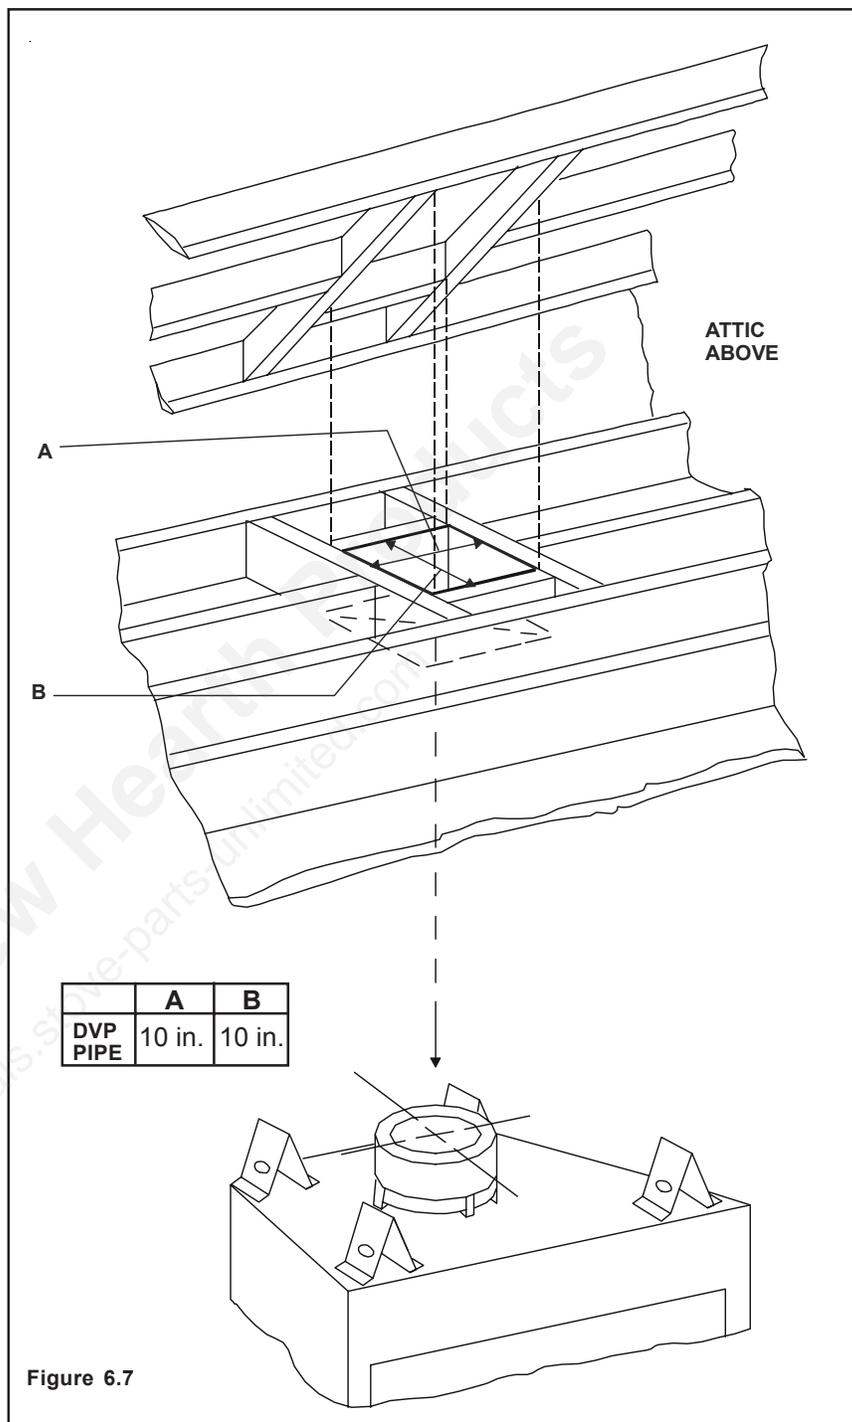

Figure 6.7
- Frame an opening 10 inches by 10 inches whenever the vent system penetrates a ceiling/floor (see Figure 6.7).